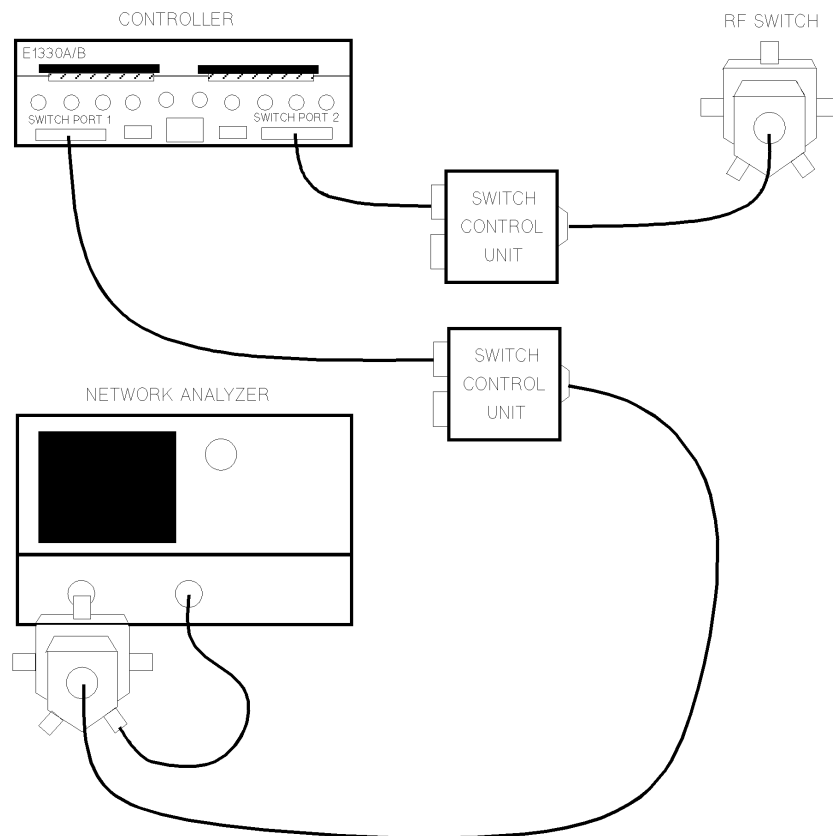

Figure 2-5 RF Switch Test Setup
1. Check to make sure that the multiple channel controller is connected to each switch control unit. An example of this setup is shown in Figure 2-5 on page 2-13.
3. Connect the switch to the network analyzer. An example of this setup is shown in Figure 2-5. Note that all of the switch ports will be tested, so make sure that there is enough room to connect all of the ports to the network analyzer.